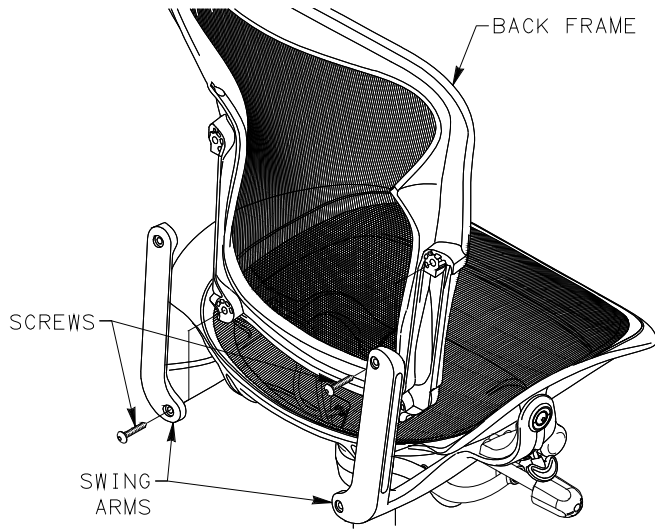

FIGURE 1
7. INSTALL ARM PAD ONTO ARM PAD SUPPORT BY INSERTING TAB ON ARM PAD SUPPORT INTO SLOT IN ARM PAD AND PIVOTING DOWN ONTO ARM PAD SUPPORT. SECURE WITH SCREWS. SEE FIGURES 1 & 11.
8. PLACE BACK FRAME UP TO SWING ARMS ALIGNING HOLES. SECURE WITH SCREWS. TIGHTEN AND TORQUE SCREWS TO 70-100 IN-LBS. SEE FIGURE 1.